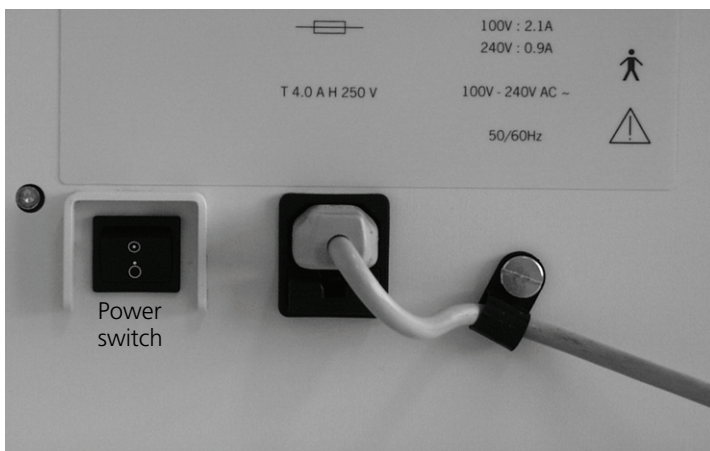

Figure 2-14. Power switch
1. Switch on the ventilator power switch (Figure 2-14). You will hear the emergency buzzer.